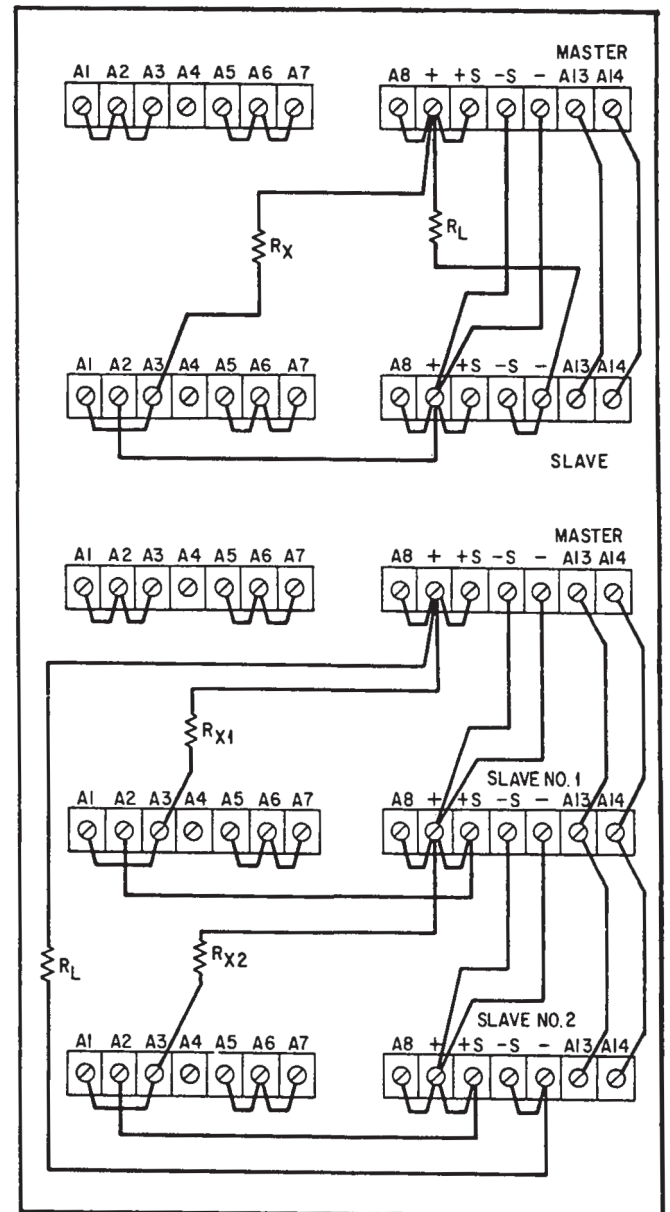

Figure 3-9. Auto-Series Operation, Two and Three Units
**3-16 Crowbar Terminals.** Terminals A13 and A14 at the rear of the supply allow the crowbar trigger to be either monitored by an external circuit or to be used to trip crowbar circuits in other precision power supplies (by interconnecting the A13 and A14 terminals). If precision power supply crowbars are to be interconnected, be sure that all A13 terminals (the positive terminal) are connected and all A14 terminals are connected (see figures 3-9 through 3-11). The crowbar trigger pulse specifications are given below and assume that no supplies are interconnected:
### 3-43 AUTO-SERIES OPERATION (Figure 3-9)
3-44 Two or more power supplies can be operated in Auto-Series to obtain a higher voltage than that available from a single supply. When this connection is used, the output voltage of each slave supply varies in accordance with that of the master supply; thus the total output voltage of the combination is determined by the setting of the front panel VOLTAGE controls on the master. The master supply must be the most positive supply of the series. The output CURRENT controls of all series units are operative and the current limit is equal to the lowest control setting. If any of the output CURRENT controls are set too low, automatic crossover to constant current operation will occur and the output voltage will drop. Remote sensing and programming can be used, though the strapping arrangements shown in Figure 3-9 show local sensing and programming. Notice that the overvoltage
3-45 In order to maintain the temperature coefficient and stability specifications of the power supply the external resistors ( $R_X$ ) shown in Figure 3-9 should be stable, low noise, low temperature coefficient (less than 5ppm per degree Centigrade) resistors. The value of  $R_X$  is the maximum voltage rating of the master supply divided by the voltage programming current of the slave supply ( $1/K_p$  where  $K_p$  is the voltage programming coefficient). The power rating of  $R_X$  should be at least 10 times the actual power dissipated in the resistor. The voltage contribution of the slave is determined by its voltage control setting.